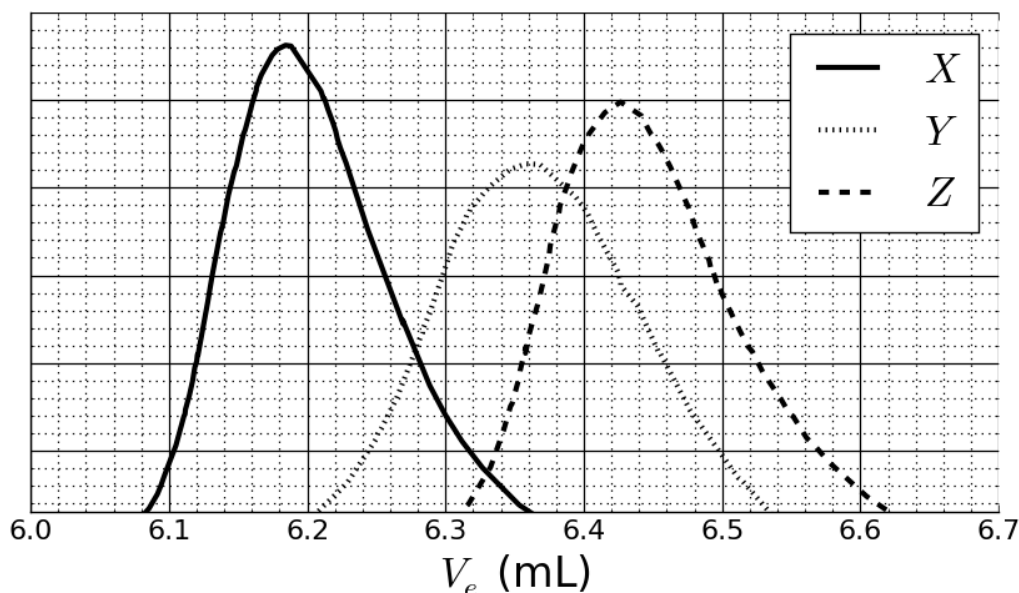

Fig. 2 – SEC chromatograms of **3a**, **3b** and **3c** against the elution volume, V_e .
This reaction of **1** with **2** yielded the copolymers **3a** after 20 h, **3b** after 25 h and **3c** after 30 h at 40 °C. Results of size-exclusion chromatography (SEC) experiments are presented in Fig. 2.
6. **Match** the signals in Fig. 2 with the copolymers **3a**, **3b** and **3c**.
7. Based on the SEC curves in Fig. 2 and 3, **determine** V_e of the polymer that corresponds to curve X and use it to **estimate** the degree of polymerization, m , of its second block. **Show** your calculation; you may use a calculator or plot a graph.